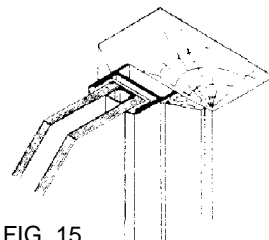

FIG. 15.
B. Offer the complete panel into the sub-frame and press hard into the sealant coated rebate. Retain in position all round with a suitable timber beading section. FIG. 15.